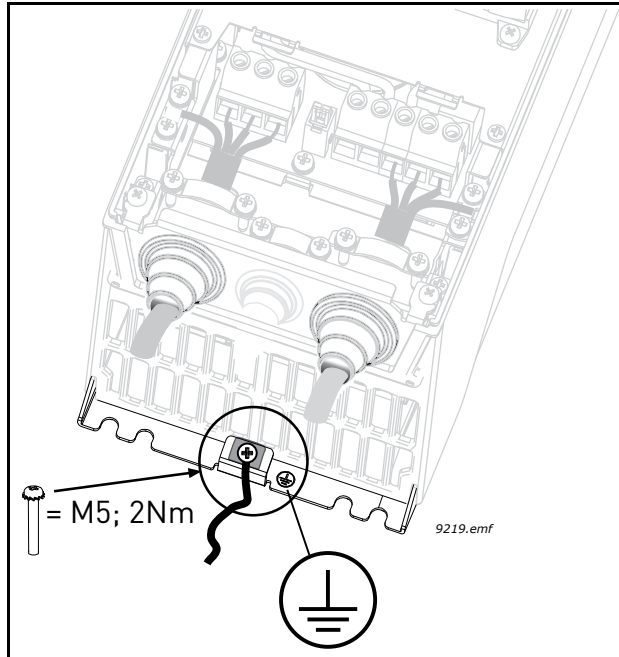

Figure 30. Additional protective earthing connector
**NOTE!** Two protective conductors are required according to standard EN 61800-5-1. See Figure 30 and chapter "Earthing and earth fault protection" on page 6. Use an M5 size screw and tighten it to 2.0 Nm (17.7 lb-in.).